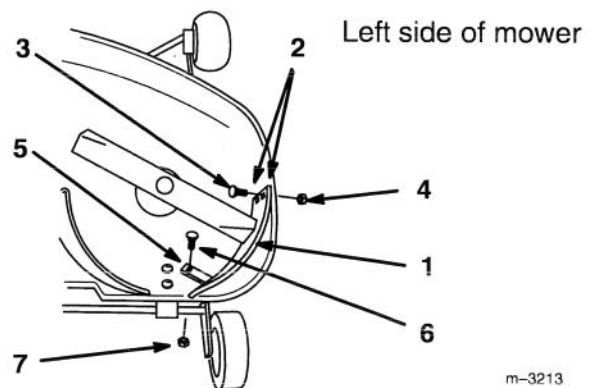

Figure 7
2. Using the baffle as a guide, drill (2) 11/32" holes in the left side of the mower (Fig. 7).
3. Place (2) 5/16-18 x 1" (26 mm) carriage bolts through baffle, with heads on the inside. Secure with 5/16" locknuts (Fig. 7).
4. Using the baffle as a guide, drill a 13/32" hole at tab (Fig. 7).
5. Locate rear left baffle tab over squared off hole and install new 3/8-16 x 1" (26 mm) carriage bolt, with head on the inside. Secure with 3/8" locknut (Fig. 7).